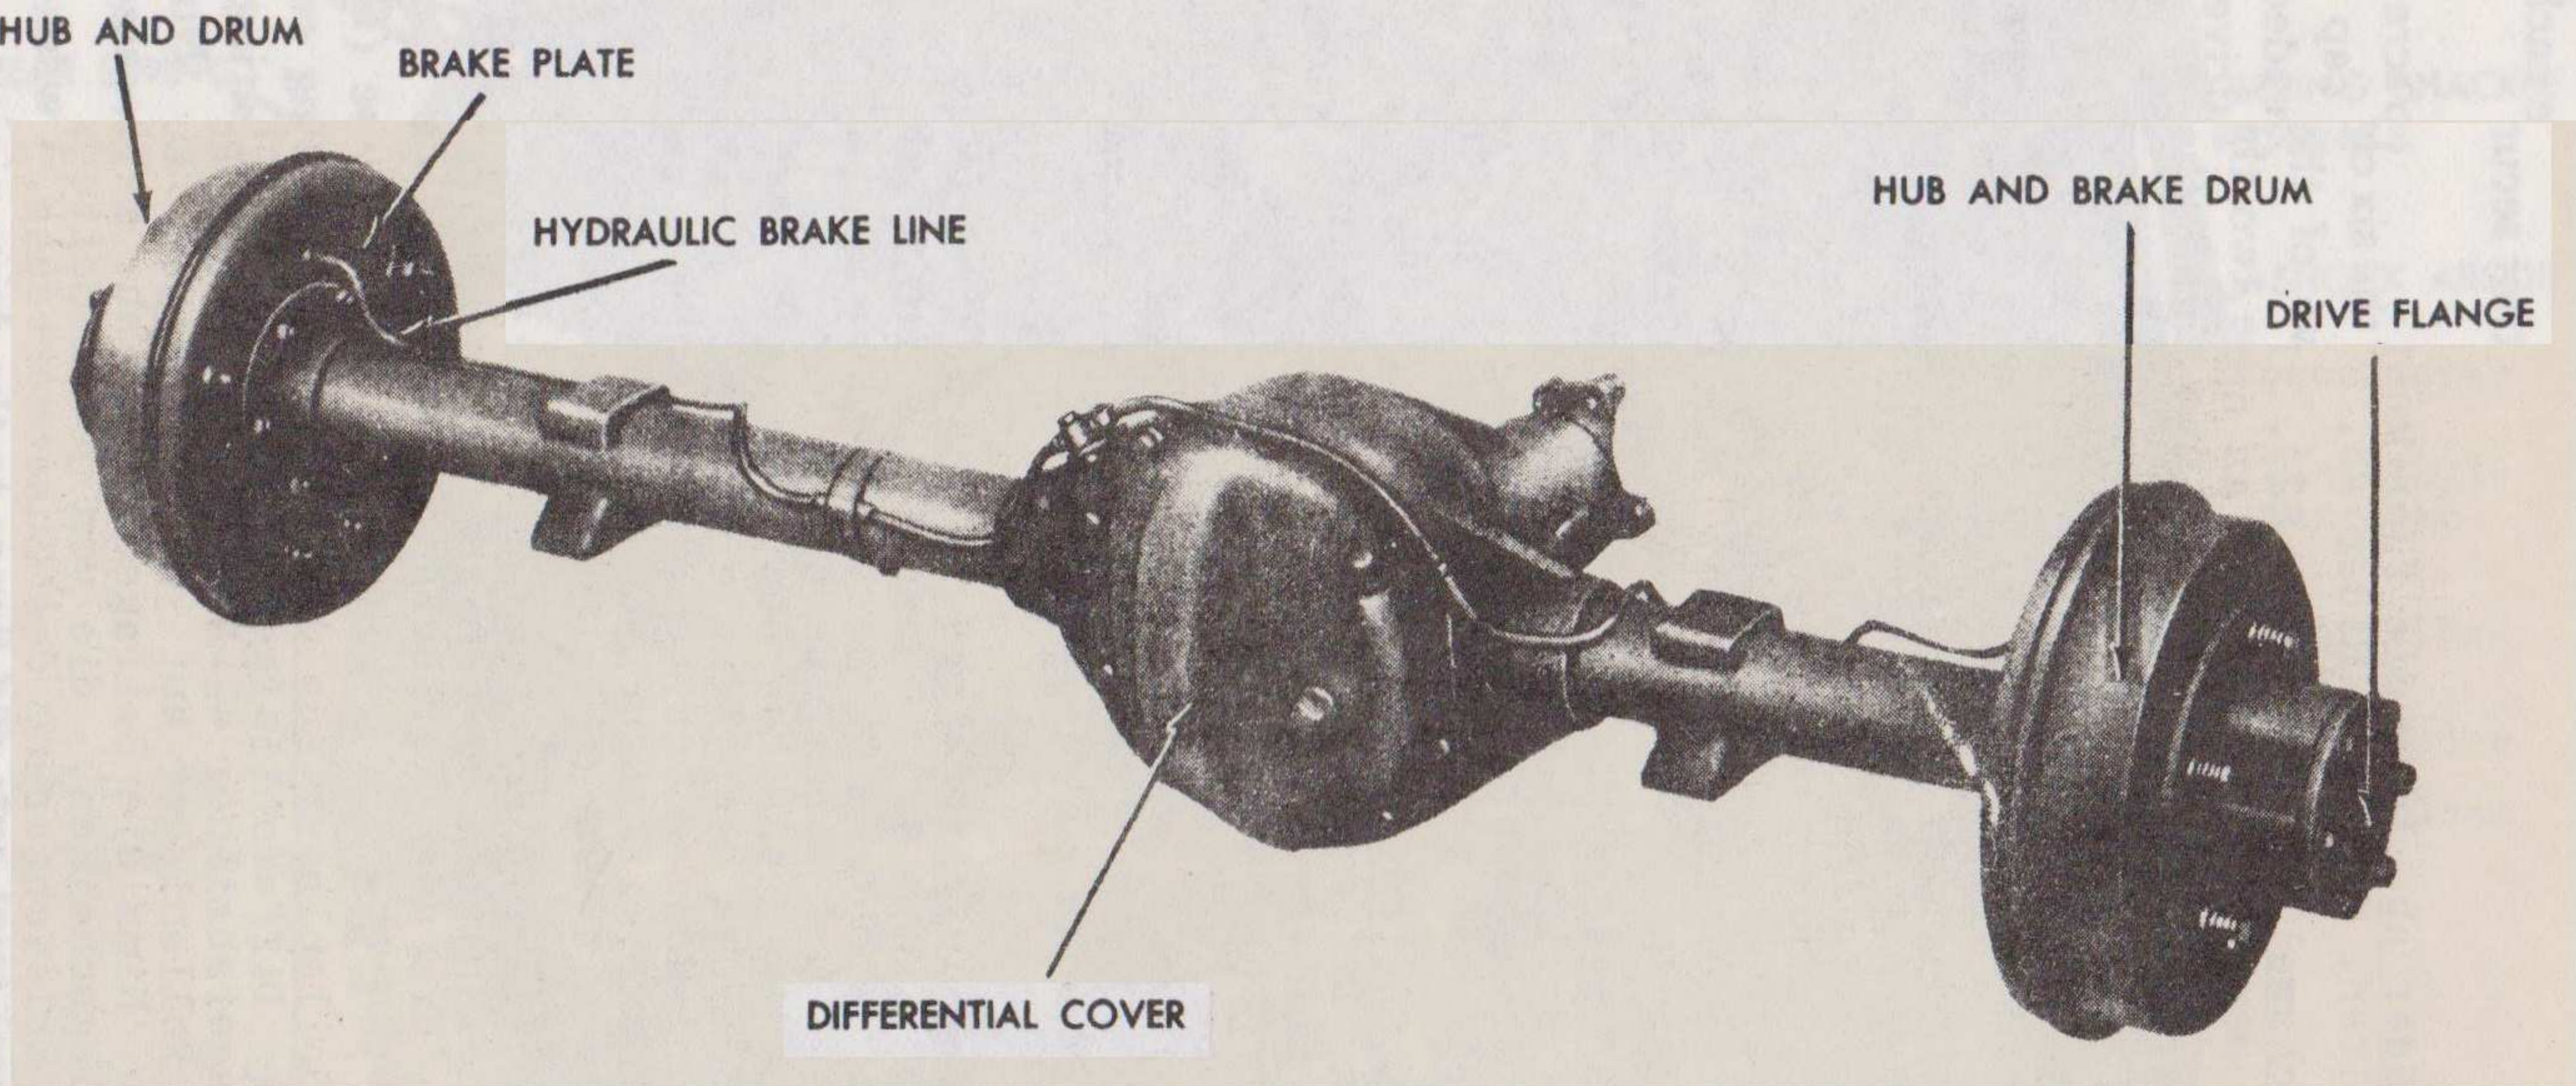

Figure 78 — Rear Axle Assembly
a. **Description** (fig. 78). The rear axle is the full-floating type, designed so that the axle shafts can be removed without disturbing the wheels. The differential drive is of the hypoid type. The differential parts are identical and are interchangeable with the front axle.
- e. **Remove Differential Assembly.** Remove the 10 cap screws that secure the differential cover to the housing (fig. 78). Remove the differential cover. Remove the 4 cap screws from the 2 differential bearing caps (fig. 47), and remove the caps. Remove the differential assembly from the housing, using a pry bar if necessary. Reinstall the bearing caps in the housing, noting the markings (fig. 47) to assure their being installed in their correct location.
l. Install Differential Cover (fig. 78). Place a new gasket and the differential cover in place on the axle housing. Install the ten cap screws that secure the cover to the housing.